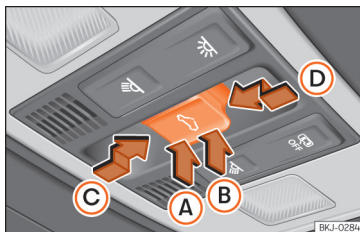

Fig. 96 On the interior roof lining: sunroof button.
The ⇄ button ⇄ **Fig. 96** has two levels. The first level switches the sunroof to the tilted position, opening or closing it fully or partially.
- Within approximately 5 seconds of having activated the roll-back function, press the ⇐ »» Fig. 96 button to the second level in the direction of arrow »» Fig. 96 Ⓚ until the sunroof closes completely.